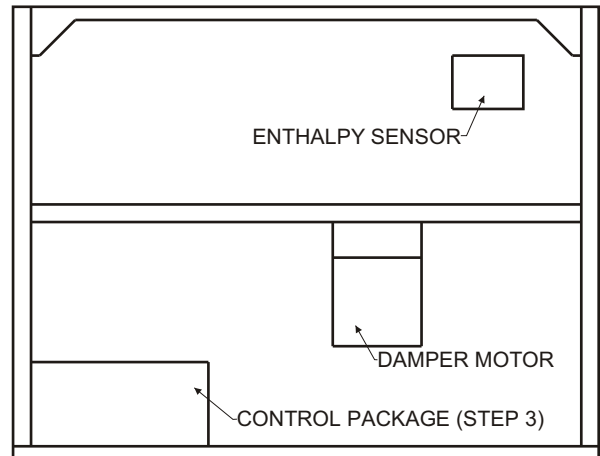

Figure 1
3. Remove box of controls to be installed over the assembly containing the logic control board and mixed air sensor. **See Figure 1.**